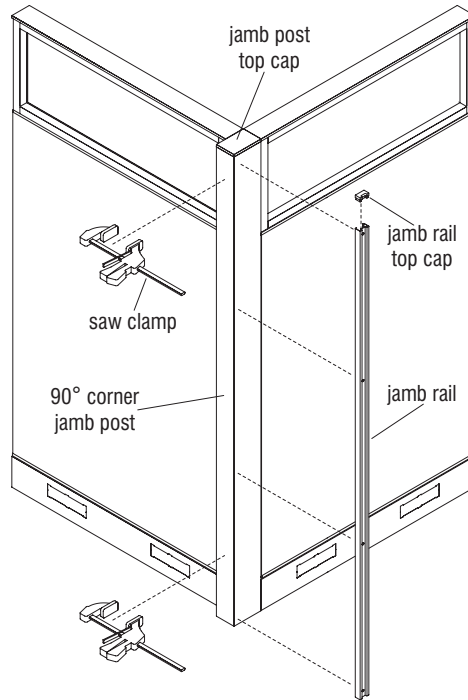

Figure 14
2. Next, make sure a top cap is inserted to the top of the jamb rail, then position jamb rail against the installed 90° corner jamb post as illustrated. Align the jamb rail top cap height with the jamb post top cap height and ensure that the jamb rail is aligned flush to the jamb post at the side, from top to bottom. Using two clamps as illustrated, securely clamp the rail to the post (Figure 14 & Detail I).